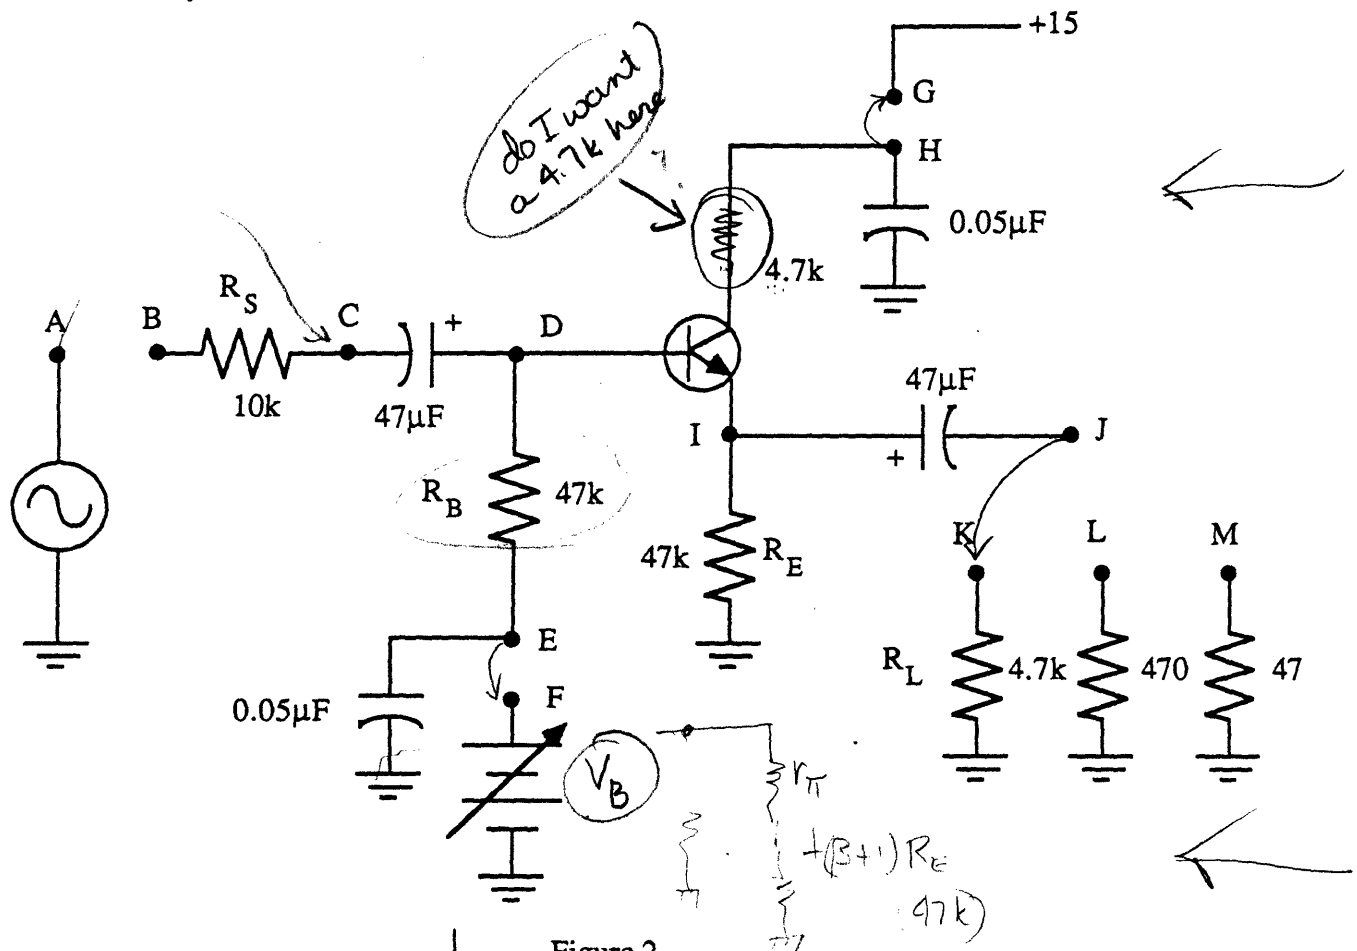

Figure 2
- (1) Build the circuit of Fig.2 exactly as it is shown. Connect the scope CH1 input to point A and CH2 input to point F. (You will keep these connections for this ENTIRE part.)
- (2) Set the signal at point A to a 2 KHz sine wave at approximately 100 mV RMS with zero DC offset. Set the voltage at point F to approximately 7 V DC.
- (3) Connect A to C, E to F, G to H, and J to K. If you observe high frequency oscillation, connect a 100 pF capacitor from D to H. (If you need this capacitor, it must stay in place for the ENTIRE lab.)
- (4) Adjust the variable supply so that point I is at approximately 5 V DC.
- ① The first flawed method of measuring Z_i and Z_o that you will try is that of simply using the DMM. Your meter measures resistance by using the unknown resistance in a voltage divider with a known resistance and a known DC voltage. This method is clearly useless when trying to measure AC impedances in an active circuit.
- (5) Set the DMM to OHMS and (try to) measure the resistance to ground at points C, D, I, and J. Record your results (if any) in Table 10.2.
- (6) Disconnect E from F and G from H so that you don't short circuit your power supplies. Connect E and H to ground.
- (7) Repeat step 5.
② The second flawed method of measuring Z_i and Z_o that you will try is that of applying a known AC voltage source at the input and the output and measuring the current that flows. This doesn't work for Z_i because the current is too small to be accurately measured. It doesn't work for Z_o because the transistor does not appreciate trying to force current into its output. The resistances of the ammeter and signal generator don't help, either.
- (8) Restore the circuit to that of Fig.2. Connect E to F, G to H, and J to K.
- (9) Set the DMM to AC AMPS, connect its mA input to A, and connect its COM input to C.
- (10) Measure (or try to) the AC current flowing into the amplifier's input. Record any results in Table 10.3.
- (11) Restore the circuit to that of Fig.2. Connect E to F and G to H.
- (12) Set the DMM to AC AMPS, connect its mA input to A, and connect its COM input to J.
- (13) Measure (or try to) the AC current flowing through the amplifier's output. Record any results in Table 10.3.
③ The third flawed method of measuring Z_o that you will try is that of measuring the AC short circuit current at the output. This doesn't work because the transistor becomes nonlinear with small load resistances and because the ammeter does not provide a true short circuit.
- (14) Restore the circuit to that of Fig.2. Connect A to C, E to F, and G to H.
- (15) Set the DMM to AC AMPS, connect its mA input to J, and connect its COM input to ground.
- (16) Measure (or try to) the AC short circuit current at the output. Observe the signal at J on your scope. RECORD ANY RESULTS IN TABLE 10.4.
- (17) Restore the circuit to that of Fig.2. Connect A to C, E to F, and G to H.
- (18) Adjust the generator so that point A is at approximately 100 mV RMS. Adjust the variable supply so that point I is at approximately 5 V DC.
- (19) Measure the exact DC voltages at D, E, H, and I. Record your measurements in Table 10.5.
- (20) Measure the exact AC RMS voltages at A, D, and J. Record your measurements in Table 10.5.
- (21) Repeat step 20 for J connected to K, J connected to L, and J connected to M.
- (22) Disconnect J from M to remove the load. Disconnect A from C and connect A to B.
- (23) Repeat steps 20 and 21.
- (1) Restore the circuit to that of Fig.2. Connect A to C, E to F, and G to H.
- (2) Connect the scope CH2 input to point I. DC couple both scope channels.
- (3) Set the signal generator to a triangle wave and set its amplitude so that the lower peaks of the waveform at I are SLIGHTLY flattened.
- (4) Record the DC voltage difference between ground and the flattened portion of the waveform at I.